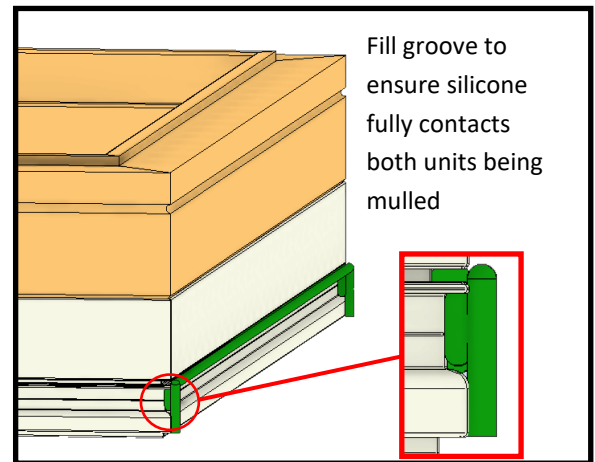

Figure 1
- A. Apply 3/16" silicone bead between mull units, in the nail fin groove and on both edges going toward the exterior of the unit (figure 1).